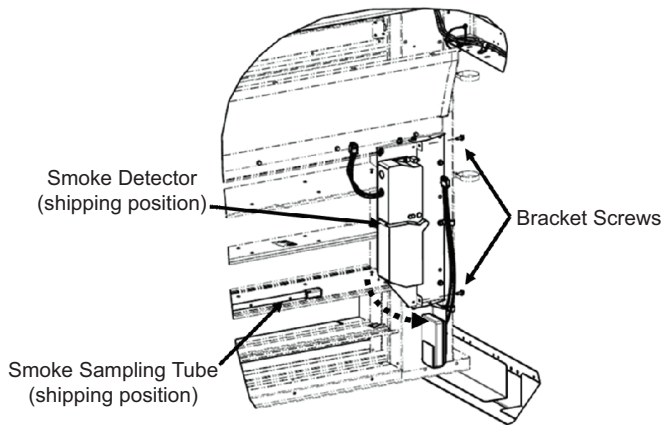

Fig. 52 — Smoke Detector Shipping Position
1. Remove the smoke sampling tube from the shipping location (see Fig. 52).
2. Remove and save the 2 screws securing the smoke detector bracket in the shipping position. (See Fig. 52.)